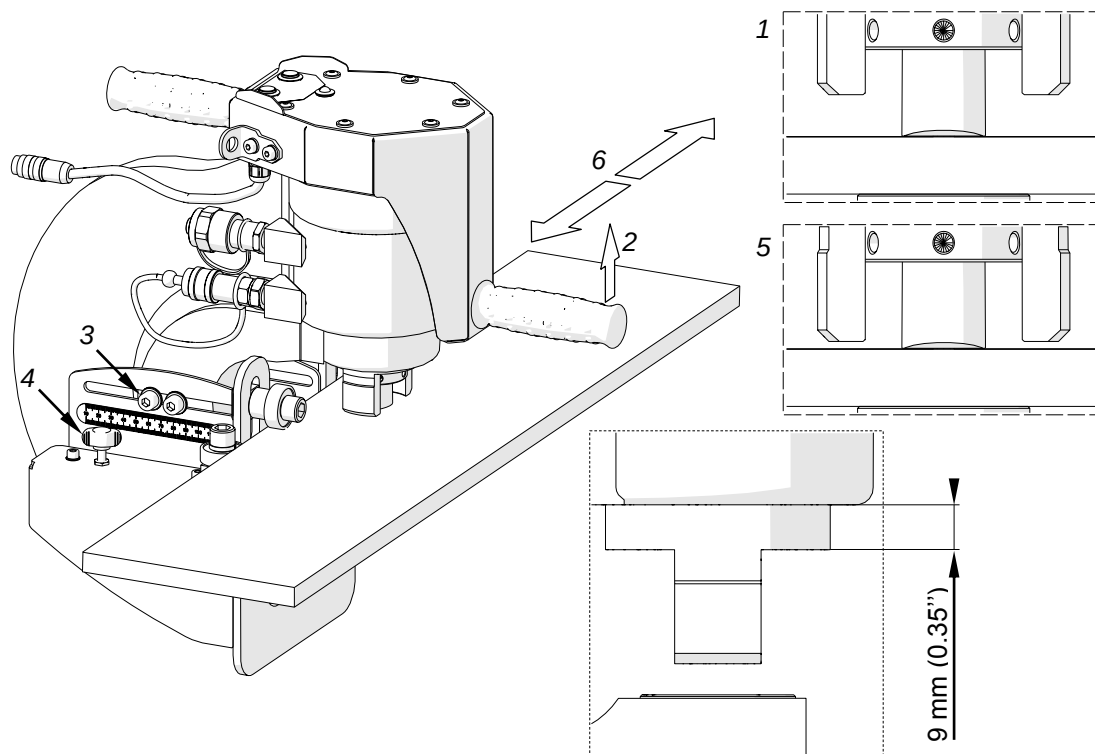

Fig. 19. Positioning the machine with the mounted guide on the plate
Position the machine the right way up on the plate in such a manner to place the punch above a previously center-punched mark indicating the center of the hole to be made. Then, use the DOWN button to slightly penetrate the punch into the plate (1, Fig. 19). Next, press the die to the plate by pulling the front handle upwards (2) and fully tighten the screws 3 in this position. Release the front handle and tighten the screws 4 to such an extent that will press the die to the plate again. Then, lower the restrainer to position it 2 mm (0.08") above the plate (5). However, never unscrew the restrainer more than 9 mm (0.35") indicated.